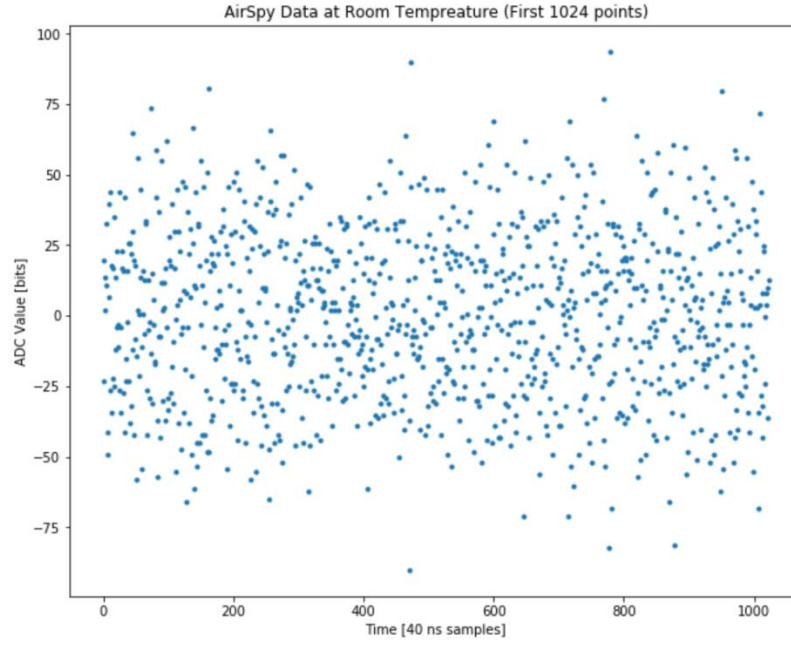
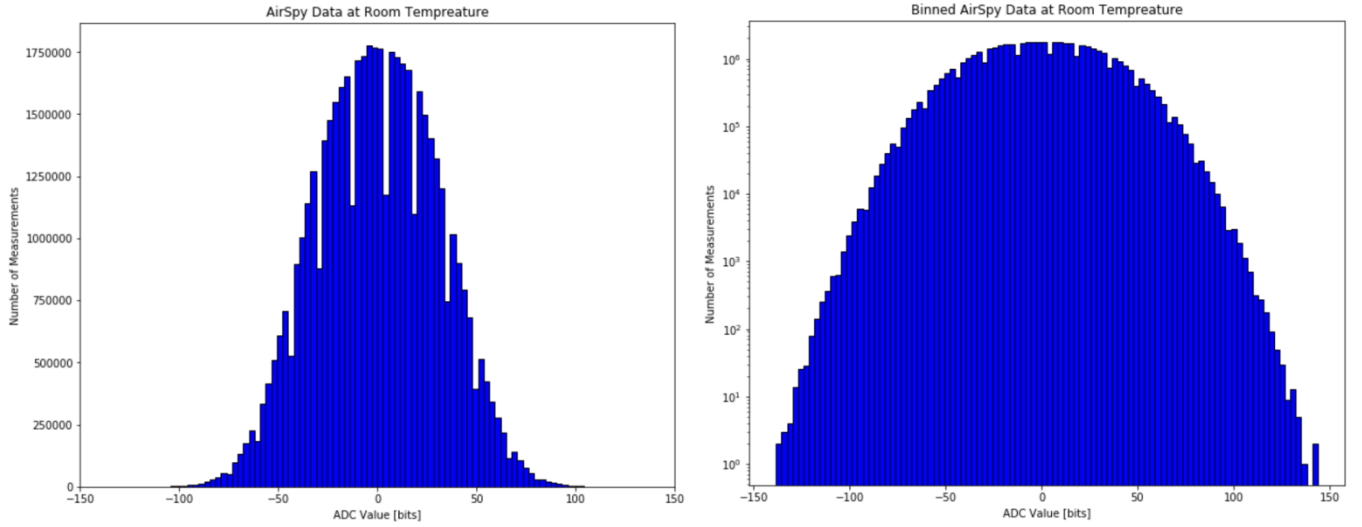

Figure 1: Scatter plot of first 1024 points of the room temperature data set.
Figure 2: a) (Left) Histogram of room temperature data (100 bins), (Right) Identical histogram as a) but on a log-y axis.
It was observed that the ADC is not perfectly symmetric around zero and the data set was adjusted by subtracting the mean from each point to center it on zero. A small section (1024 points) were organized into a scatter plot (Figure 1), however it is difficult to see exactly what is going in with this visualization and as such the data was then represented as a histogram on both a regular and logarithmic y-axis (Figure 2).
The power for individual time samples can be computed based on Equation 3 and since this involves drawing individual samples from a normal distribution (Figure 2), its histogram should be similar to a χ^2 distribution function with one degree of freedom.
In Figure 2 the raw electric field at room temperature is binned into a histogram and, as expected by the central limit theorem, the distribution resembles a single-peaked Gaussian function. Thus it can be concluded that the electric field samples follow a normal distribution for a large number of samples. Furthermore, when plotting the power distribution, which scales as the average of the squared electric field, for various values of N , it is found that the distributions follow the corresponding χ_N^2 functions with N degrees of freedom. In addition, for larger values of N , the distributions being to resemble a Gaussian which is an expected result.
9.5 Python Code for Figures 1 and 2